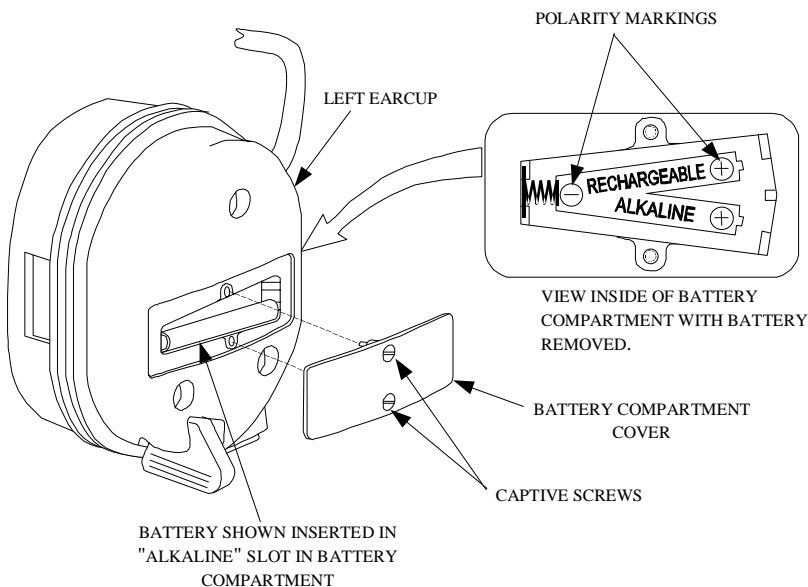

Figure 3-3. Details of CVC Battery Compartment
1. Using a flat head screwdriver (if authorized) or a small coin, loosen two captive screws and remove battery compartment cover. (See Figure 3-3.)